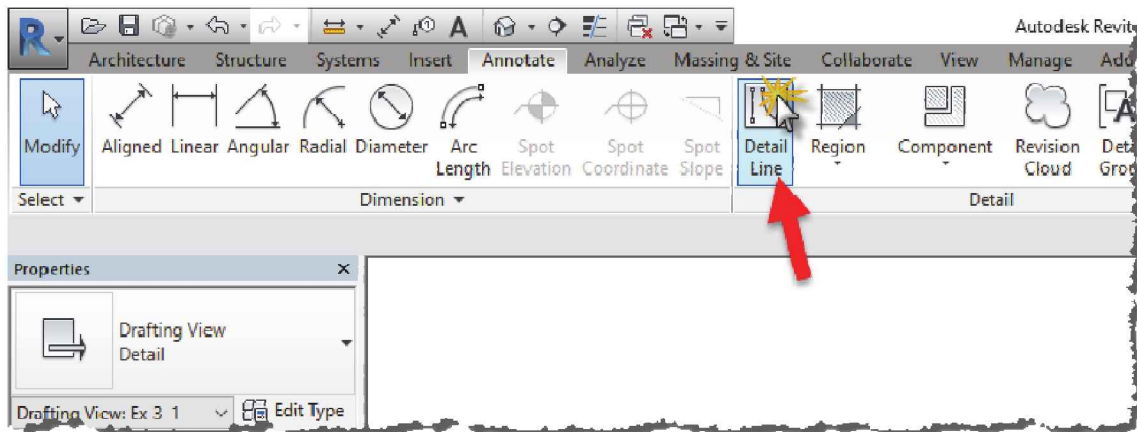

FIGURE 3-1.5 Annotate tab
7. On the *Detail* panel, select **Detail Line** (Figure 3-1.5).